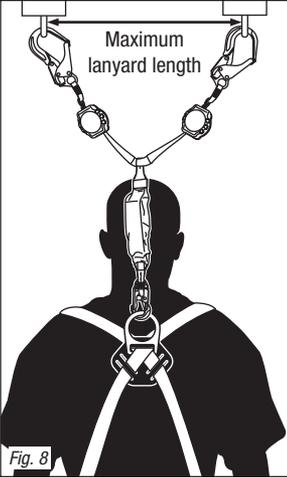

Fig. 8
- Do not connect to anchorage points that are further apart than the lanyard length (*Figure 8*).